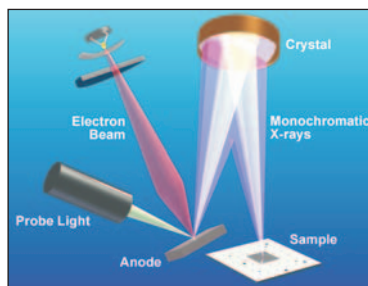

Figure 3: The microfocus monochromator on Theta Probe has a Probe Light to assist in sample alignment.
- The Probe Light. This is a light source, situated outside the vacuum system, which is focused onto the anode and reflected onto the crystal. The crystal focuses the light onto the sample at the analysis position. This provides a means of defining the analysis position with great confidence. Its operation is illustrated in Figure 3.